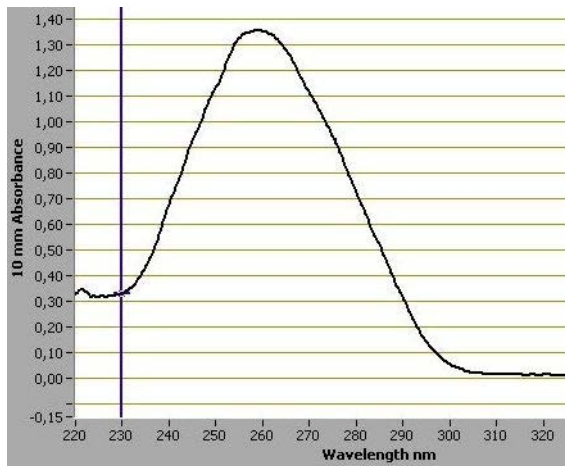

Figure 2 Typical spectrum of pure DNA
- Record the A_{260}/A_{280} and A_{260}/A_{230} ratios. Scanning the absorbance from 220-320 nm will show whether contaminants exist that affect absorbance at 260 nm. Check the absorbance scans for a peak at 260 nm and an overall smooth shape as shown in **Figure 2**. The ideal 260/230 ratio for pure DNA is >1.8. High-quality gDNA samples have an A_{260}/A_{280} ratio of 1.8 to 2.0, which indicates the absence of contaminating proteins.